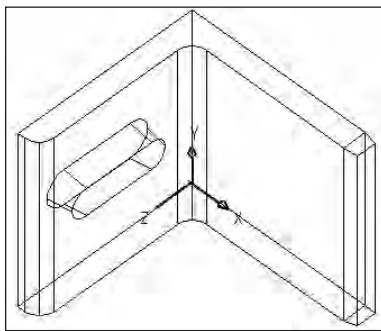

Figure 24-44: The editing mounting angle
9. At the **Specify the base point:** prompt, pick the midpoint at ❶.
10. At the **Specify another point along the axis of tapering:** prompt, pick the midpoint at ❷.
12. Right-click and choose **Delete**. At the next prompt, select the filleted face at ❸. Right-click and choose **Enter**. AutoCAD removes the fillet.
13. Right-click and choose **Extrude**. At the next prompt, select the face at ❹ by picking inside the face. Right-click and choose **Enter**.
17. Save your drawing. It should look like Figure 24-44.